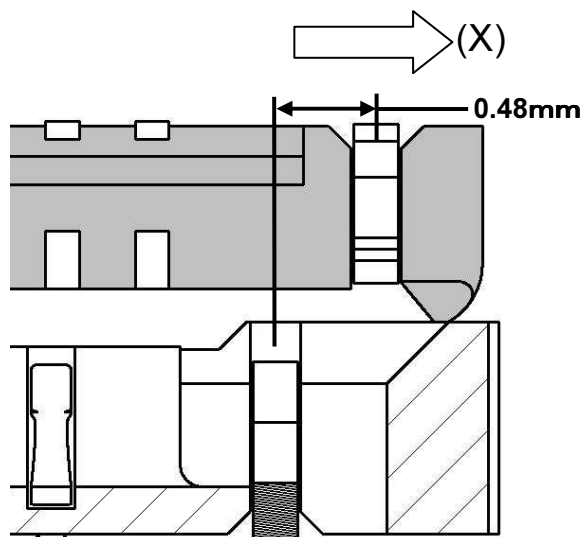
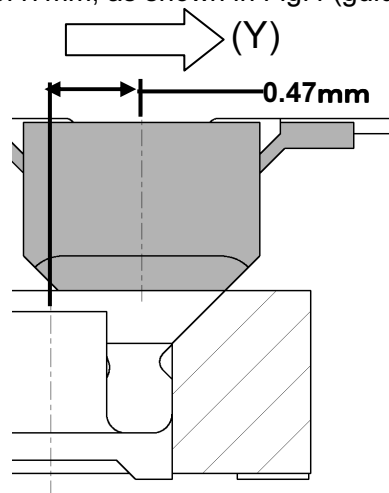

Fig.3 (X)
Fig.4 (Y)
コネクタ長手(X)方向は Fig.3 に示す様に 0.48mm、コネクタ巾(Y)方向は Fig.4 に示す様に 0.47mm 誘い込み(ガイド機能)があります。
As the direction of a length hand (X) is shown in Fig.3, there are 0.48mm and the connector width (Y) direction inviting 0.47mm, as shown in Fig.4 (guide function).